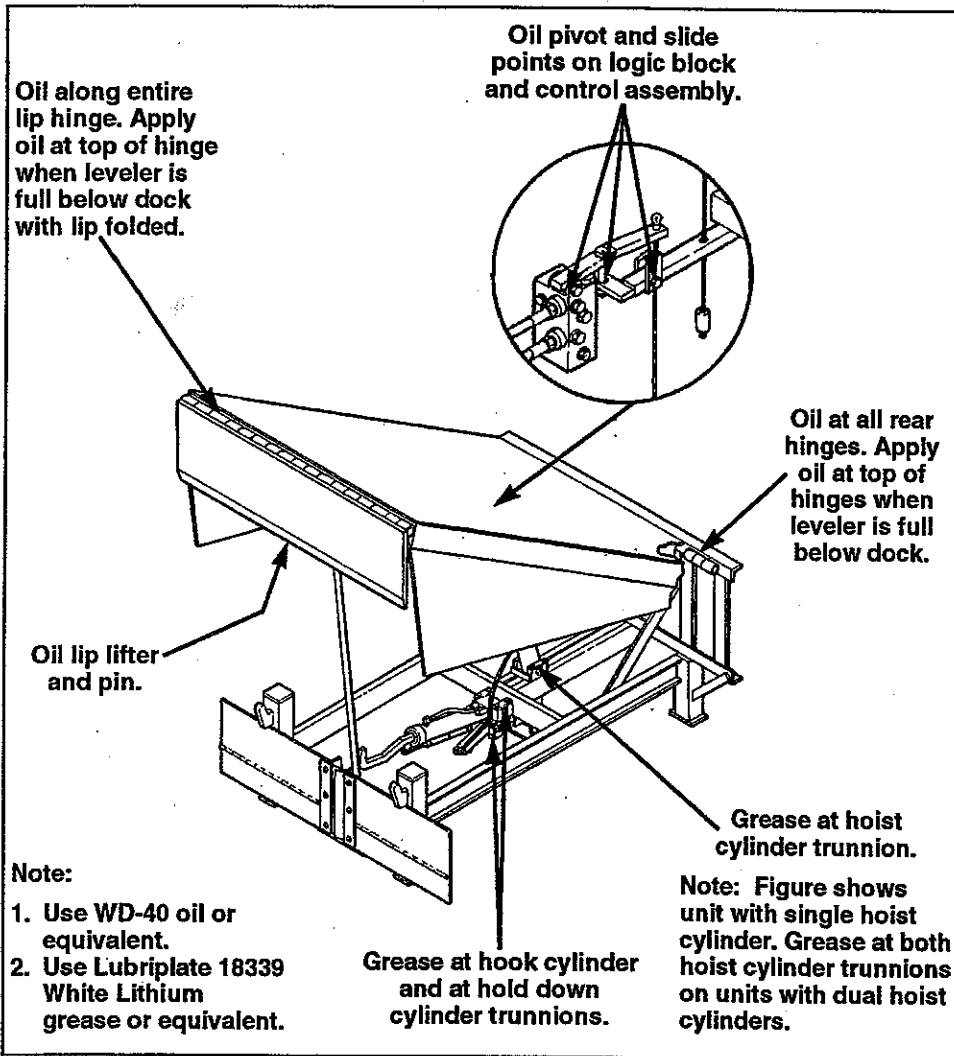

Fig. 39. Lubrication Chart
1. Lubricate the unit as shown in Figure 39. Failure to properly lubricate the unit will cause abnormal operation of the unit.